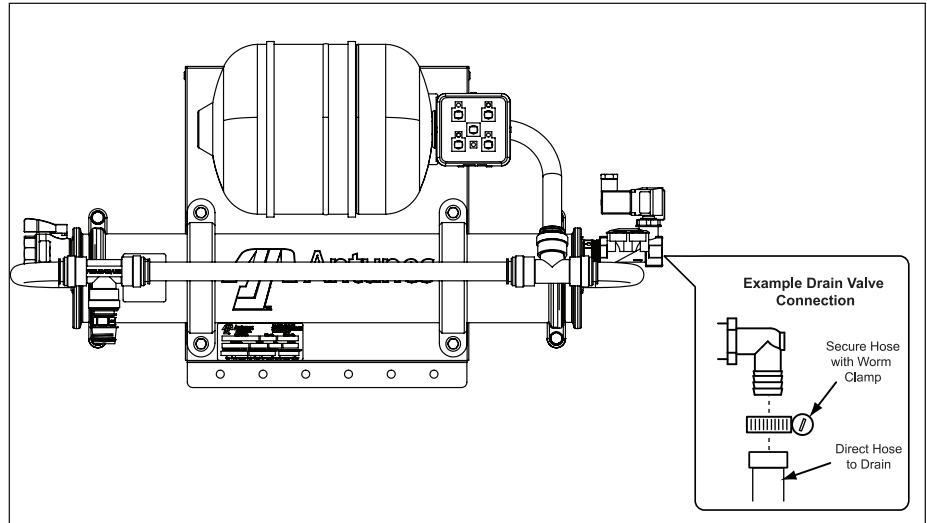

Figure 3. Drain Valve Connection
2. Connect one end of the hose to the Drain Valve with an appropriate fitting (not supplied) (Figure 3).